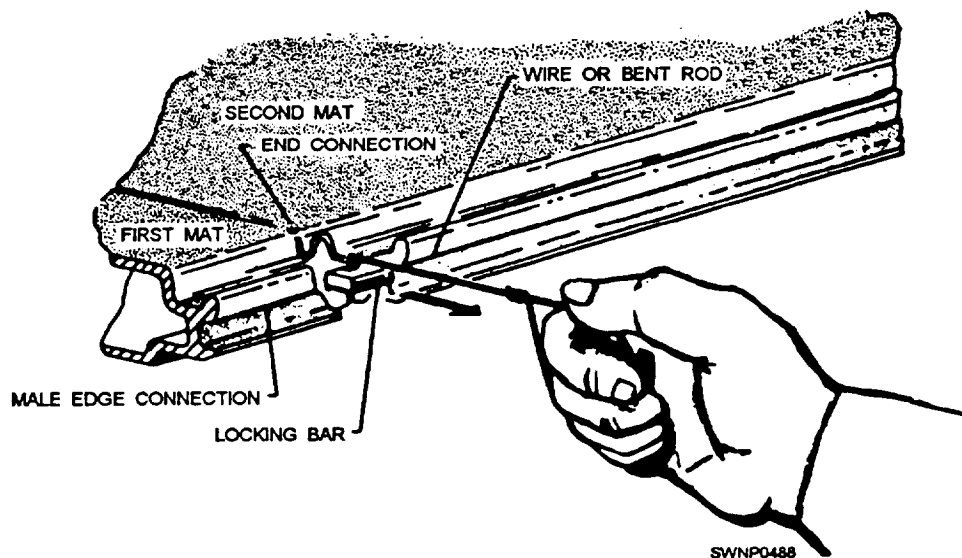

Figure 11-36.—Removal of locking bar.
5. With the row of mats raised, insert a bent rod or wire in the locking bar hole and remove each locking bar including the bars securing the cut piece of the guide rail. The first row of matting may then be disassembled and removed. (See fig. 11-36.)